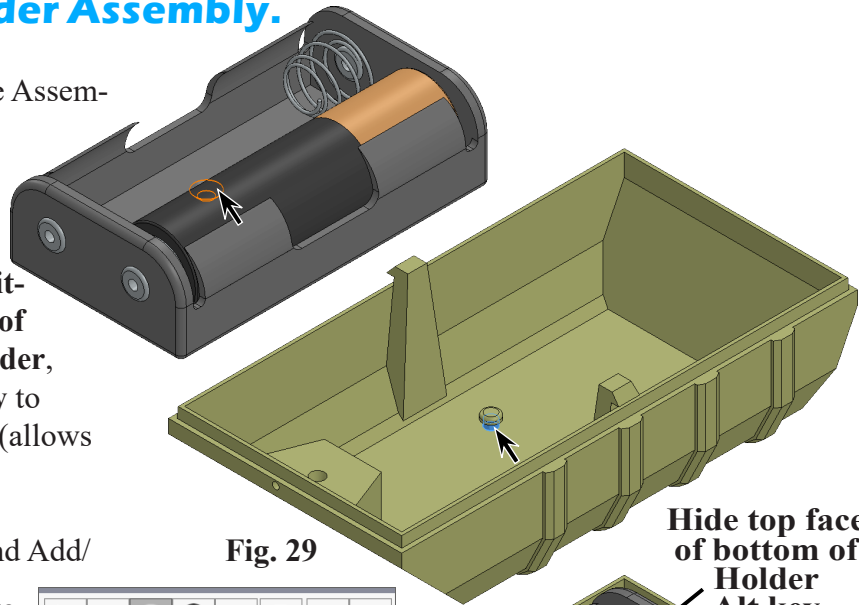

Fig. 29
Step 2. Click a **cylindrical face of Battery Holder post in Bottom Transmitter** and **cylindrical face of countersink hole in Holder**, **Fig. 29**. **Tip:** Use X key to toggle on/off Filter Face (allows selection of faces only).